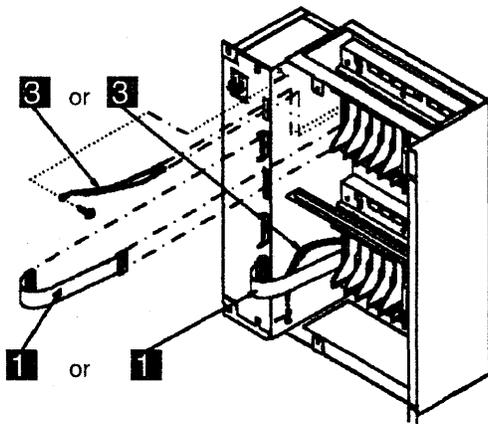
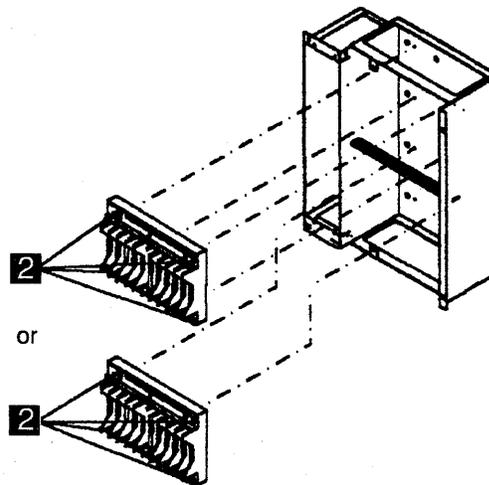

Figure 4-137. LIC Board Type 1 Enclosure Assembly
Figure 4-138. LIC Board Type 1 Assemblies
Refer to Figure 4-137 and Figure 4-138 and do the following:
2. Refer to Figure 4-138 on page 4-150. If present, check if there is a place on the new board to install the ground strap and reconnect it. If there is not, remove the ground strap from the frame. Mount the new board in place and secure it with the four screws **2**.
3. Refer to Figure 4-137 on page 4-150. Reconnect the flat power cable **1**.